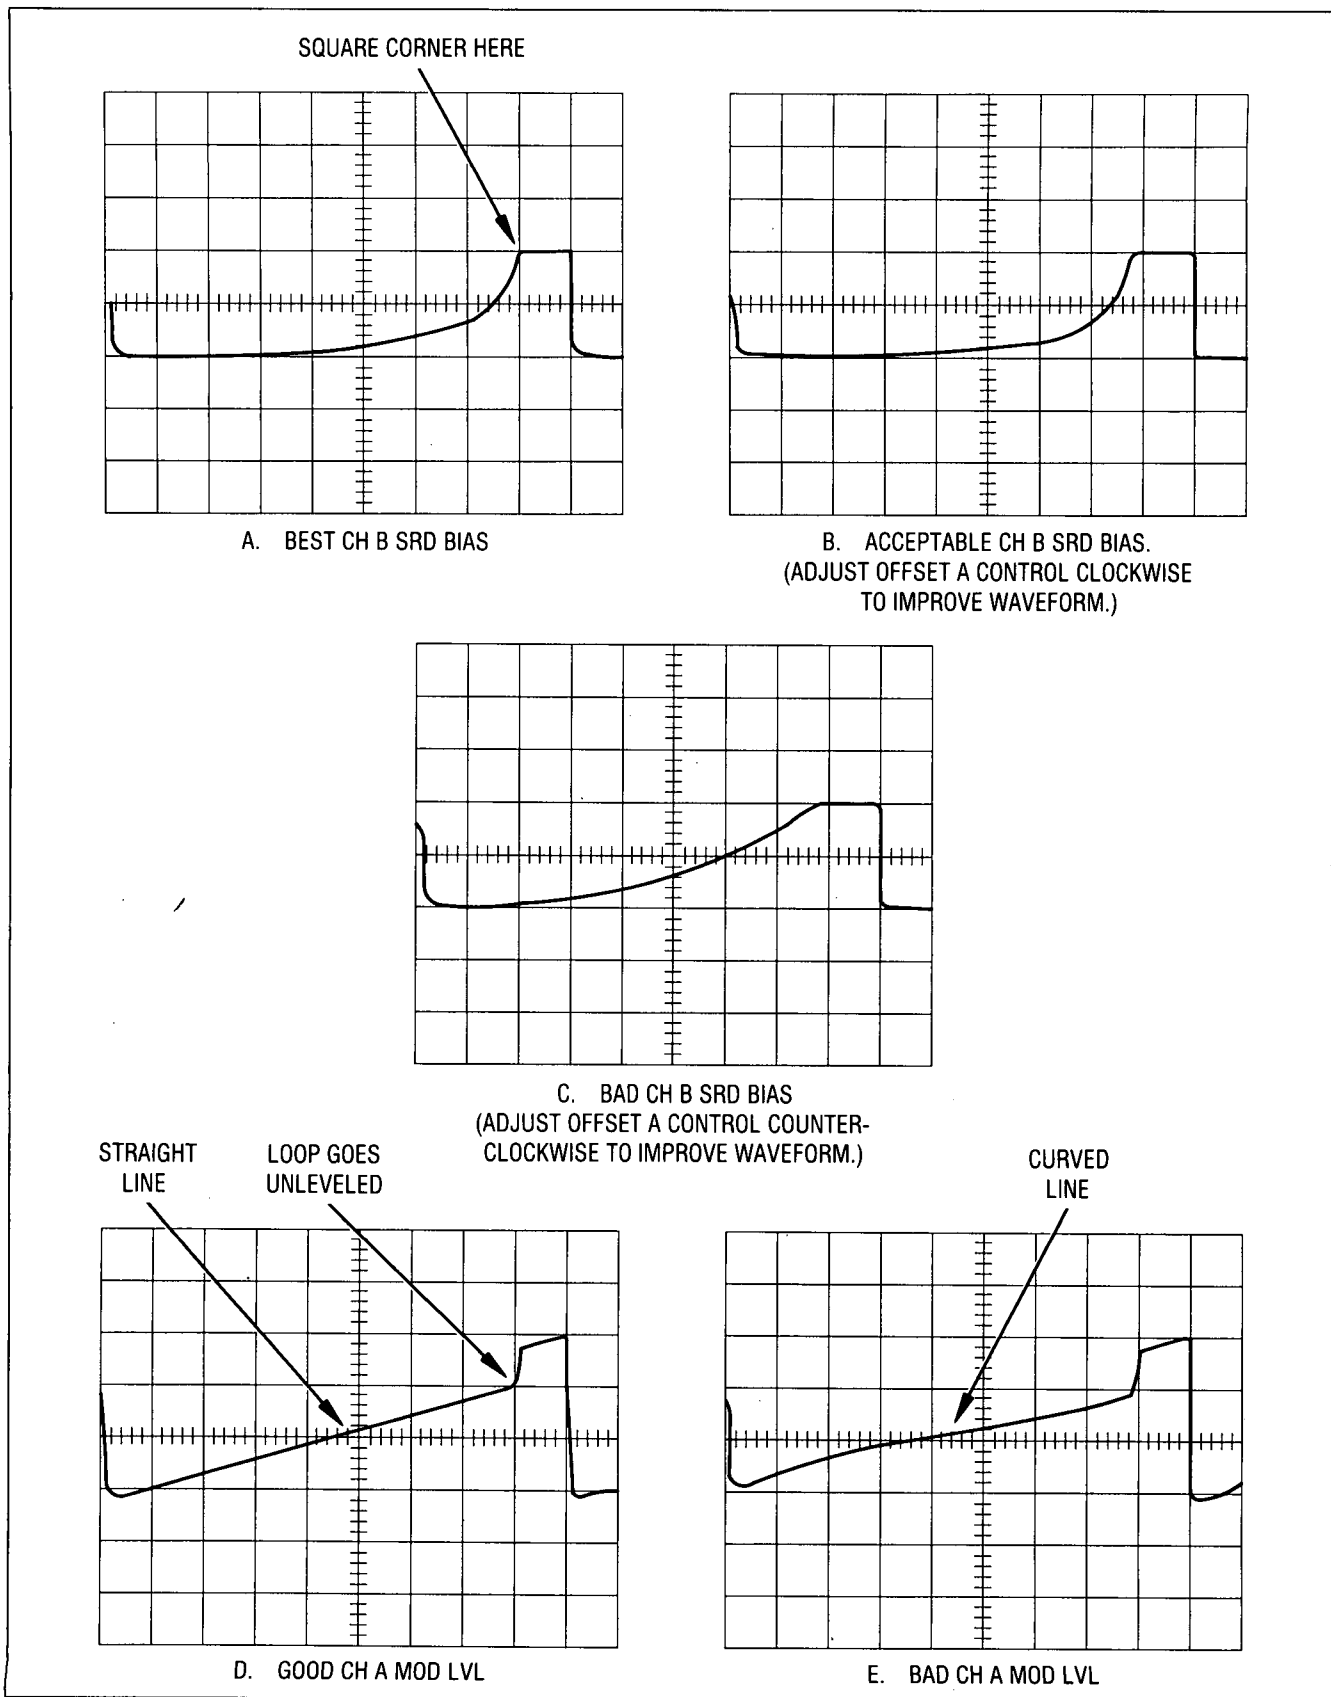

Figure 5-55. Typical MOD LVL and SRD BIAS Waveforms
The oscilloscope display should look similar to Figure 5-55.
9. Adjust A22R50 (C), so that the MOD LVL waveform is straight and at its most negative voltage. When the A22R50 is adjusted properly, the MOD LVL waveform is a straight ramp indicating constant SYTM conversion efficiency over its entire input range. Also, the ramp is at its most negative value indicating maximum conversion efficiency.
11. Using the DUT's UP ARROW and DOWN ARROW step keys, step through band 2 from 7 to 13.4 GHz and check for an optimum SRD bias trace (Figure 5-55, Waveform A, B, and C) at each step. If not optimum, adjust A22R50 (C) and A22R55 (MIN). If an adjustment is made, step through the entire band again, making sure every step is optimized or acceptable if all the steps cannot be optimized.